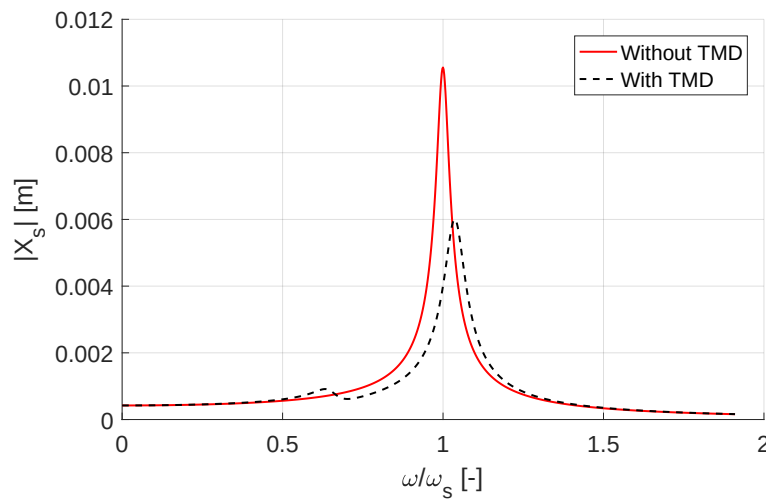

Figure 5: Structure displacement with an untuned TMD and without TMD.
3. TMDs stand for tuned mass dampers. Their effectiveness is indeed optimized when the natural frequency of the damping mass is close to the one of the structure. This effect can be exemplified by doubling the mass of the damper (while keeping every other parameter unchanged). Figure 5 clearly shows that the damping properties are more than twice reduced when m_d is modified.